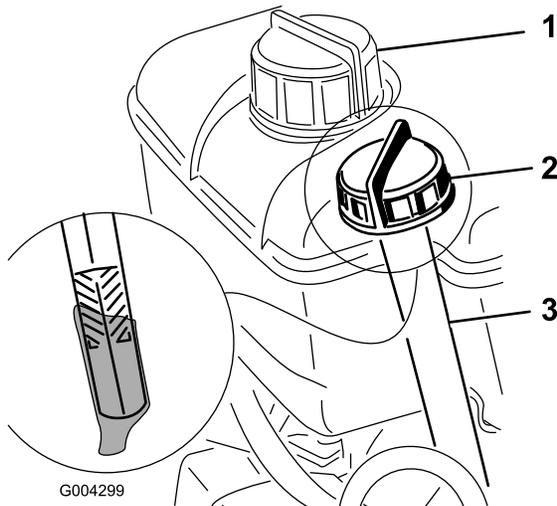

Figure 12
2. Clean around the dipstick (Figure 12).
1. Clean around the fuel tank cap (Figure 12).